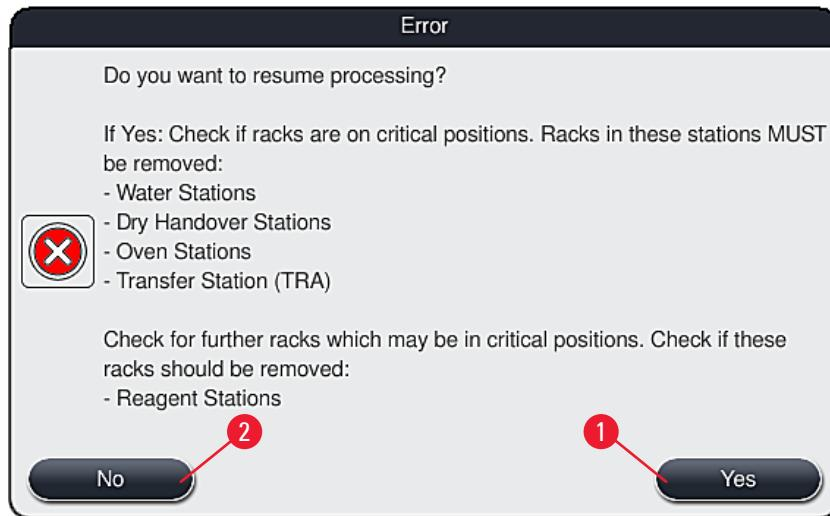

Fig. 109
4. Subsequently, the user has the option of selecting whether or not the staining process is to be resumed (→ p. 127 – 8.2.2 Resuming the staining process after a power failure) or canceled (→ p. 129 – 8.2.3 Canceling all staining processes after a power failure) (→ "Fig. 109").
2. (→ "Fig. 109") Remove the critical racks from the instrument in accordance with the previous message and confirm the removal by pressing the corresponding station (→ "Fig. 110-1") on the screen.
The cancellation of the staining process and the return to the previous selection menu (→ "Fig. 109") can be undone by pressing the "Cancel" button (→ "Fig. 111-2").